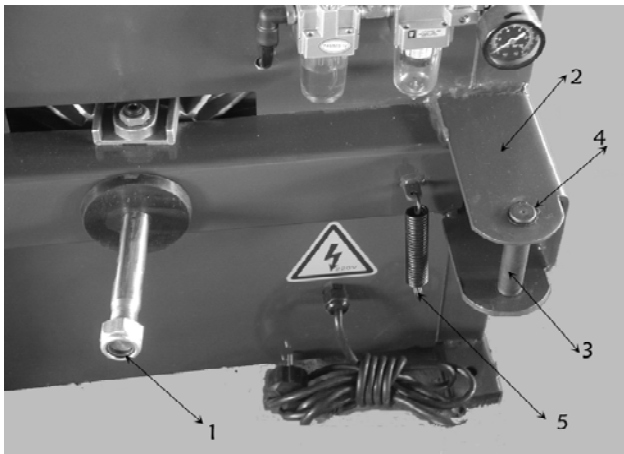

Fig 4-5
4. 2. 8 Unscrew the lock nut (1) at the front end of the bead breaker cylinder piston rod. Use the spring tongs to remove the retaining ring on the bead breaker arm pin shaft. Remove the pin shaft (3) and hang the spring (5) as shown in Fig 4-5.